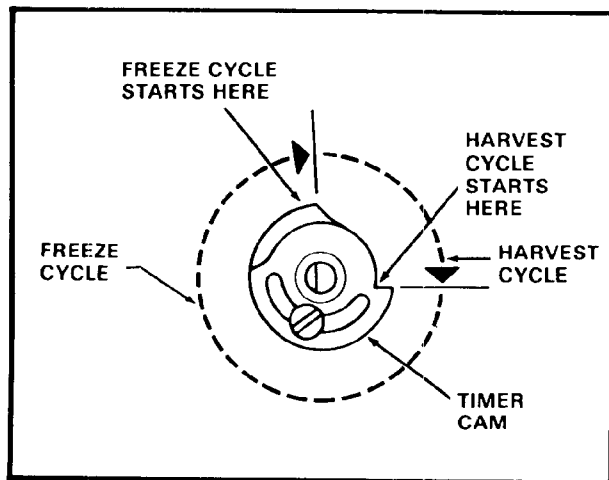

Figure 5-1. START Positions for the Freeze/Harvest Cycles.
3. Rotate the shaft of the Timer & Switch Assembly, located in the hole in the front of the Control Box Cover, CLOCKWISE, until the actuator arm on the microswitch rides up out of the cam slot, to the outer surface of the cam, then stop. This is the start position for the freezing cycle. See Figure 5-1.
9. At end of twenty minutes, rotate the shaft of Timer & Switch Assembly, CLOCKWISE, to start a second harvest cycle. Repeat procedure to effect four complete harvest cycles. See Figure 5-1.